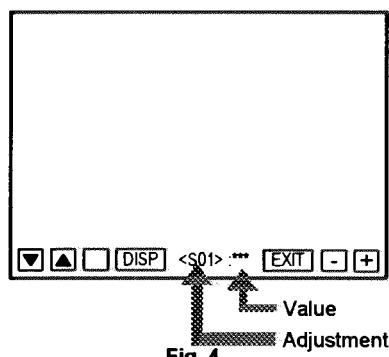

Fig. 4
(3) SETTING VALUE CHANGES
- While the adjustment mode menu is displayed.(Fig.4)
- ① Press the +key to change the setting value in the + direction.
- ② Press the -key to change the setting value in the - direction.
- ③ Press the PHASE key or CHROMA key to change the adjustment items.